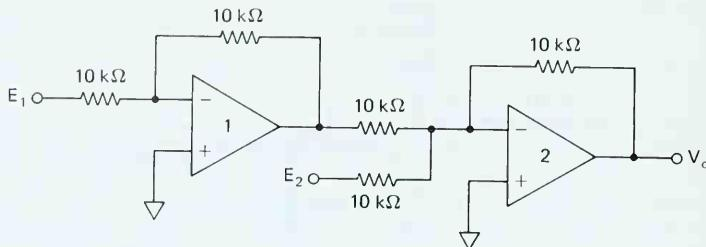

FIGURE P3-14
- 3-14.** The circuit of Fig. P3-14 is called a “subtractor.” Is E_1 subtracted from E_2 , or vice versa?